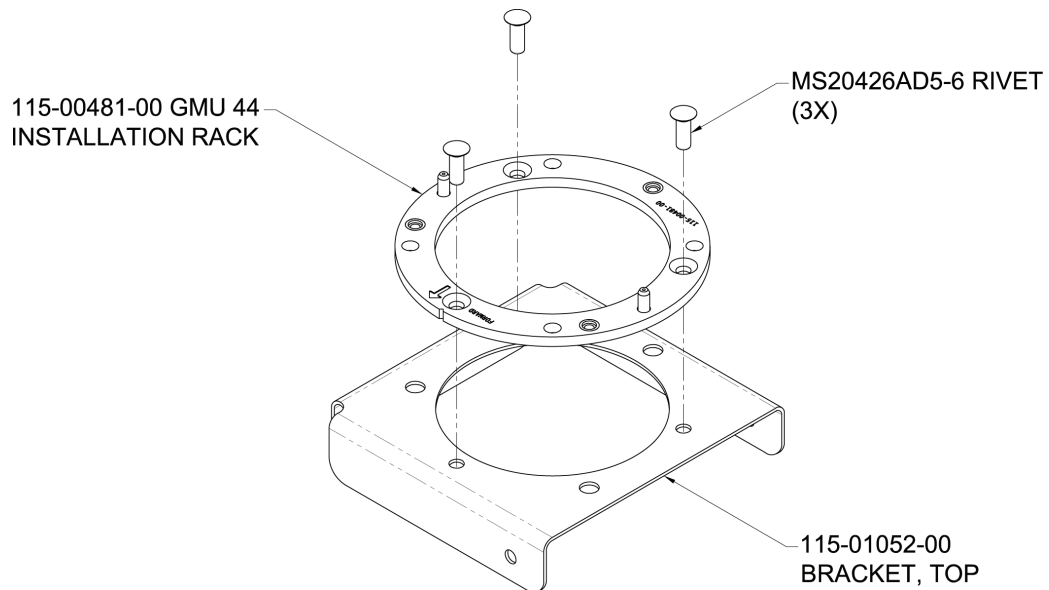

Figure C-4 Lancair IV/IV-P GMU 44 Mounting Bracket
1. Rivet the GMU 44 Installation Rack (115-00481-00) to the Top Bracket Assembly (115-01052-00) as shown in Figure C-4.